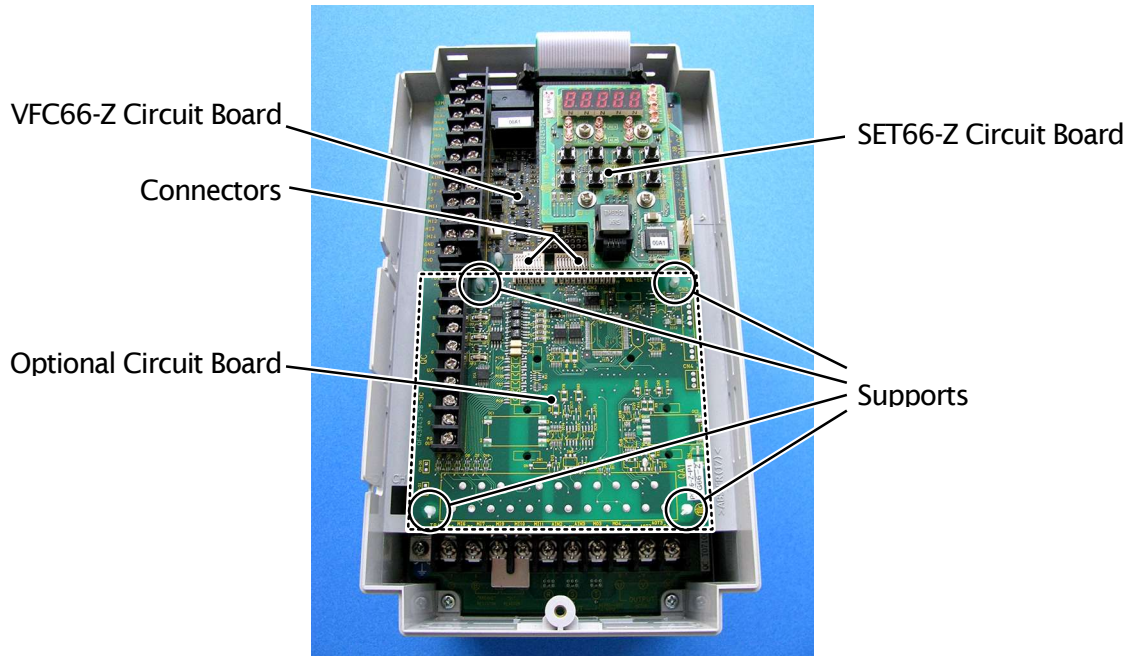
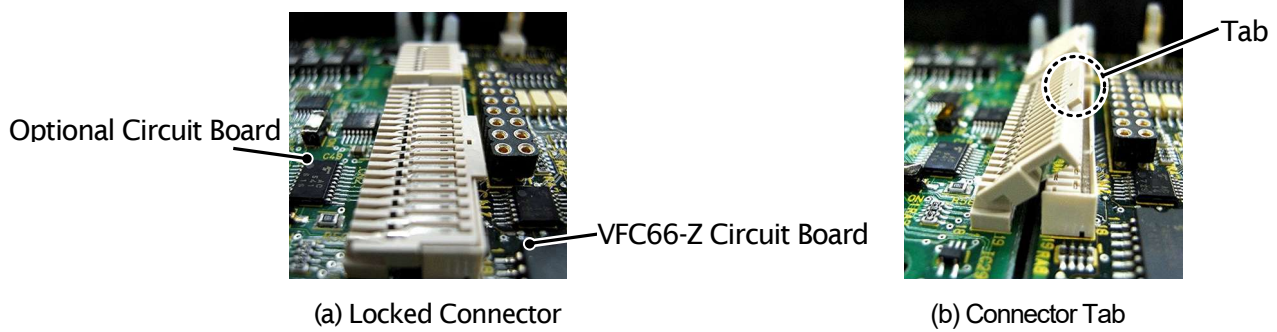
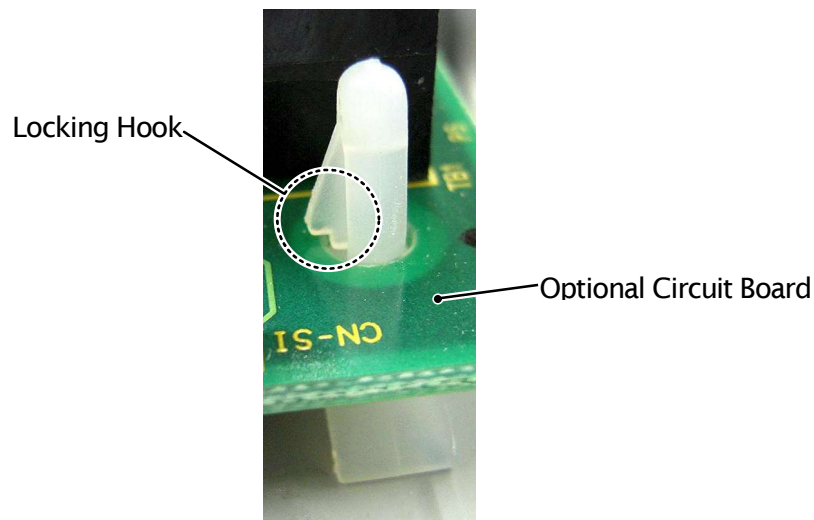

Figure 3.2 ASYC66-Z Installation Position (VF66B-2R222)
Figure 3.4 Connector
Figure 3.5 Support Locking Hook
- (1) Confirm that the power is off before performing any work.
- (2) Install the ASYC66-Z board in the location designated by the dotted lines shown in Figure 3.2. (The figure shows the VF66B-2R222 model, however, the installation location is the same for other models.) If another optional circuit board is already installed, remove it by following the procedure described below. If another optional circuit board is not already installed, skip to (6).
- (3) In order to safely remove the optional circuit board, first remove the SET66-Z board. Remove the 4 screws indicated by the circles in the figure on the right. Pull the SET66-Z board away from the VFC66-Z board in order to detach it.
- (4) Next, release the two connectors between the VFC66-Z board and the optional circuit board. Figure 3.4 (a) shows the connector in its engaged position. Pull up the tab to release the connector as shown in Figure 3.4 (b).
- (5) 4 board supports are included to mount the optional circuit board to the inverter housing, as indicated by the circles in Figure 3.2. Press down on the board support locking hooks as shown in Figure 3.5 to remove the optional circuit board.
- (6) Align the four holes of the ASYC66-Z board with the 4 board supports indicated by the circles in Figure 3.2. Push down on the board until the support locking hooks snap into place as shown in Figure 3.5.
- (7) Align the tabs (shown in Figure 3.4 (b)) of the ASYC66-Z board connectors CN1 and CN2 with the VFC66-Z board connectors CN7 and CN4. Press down on the tabs to engage with the connectors. Once the connectors are correctly joined, it will look like Figure 3.4 (a). The movable part of the connector has some elasticity and if the joint is weak, it may become disconnected. Ensure that it is properly locked in place.
- (8) Install the SET66-Z board to its original position.
- (9) Return the inverter unit cover lid to its original position.